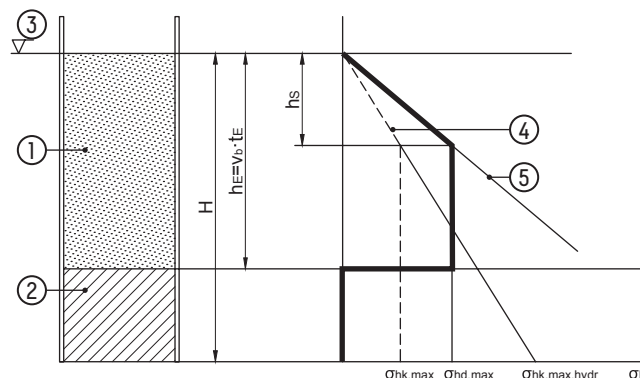

Fig. 59
- If the casting time is longer than the setting time t_e , the cast level $h_e = t_e \cdot v_b$ exercises pressure on the formwork, whereas the cast level $(H - h_e)$ is self-bearing (Fig. 59).